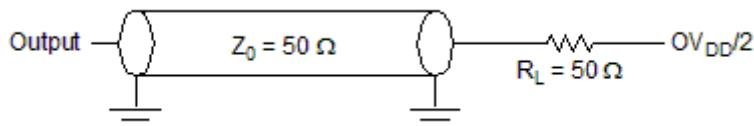

Figure 15. PHY Timer AC test load
1. PHY Timer inputs and outputs are asynchronous to any visible clock. PHY Timer outputs should be synchronized before use by any external synchronous logic. PHY Timer inputs are required to be valid for at least t_{PIWID} to ensure proper operation. 2. See Figure 15 .